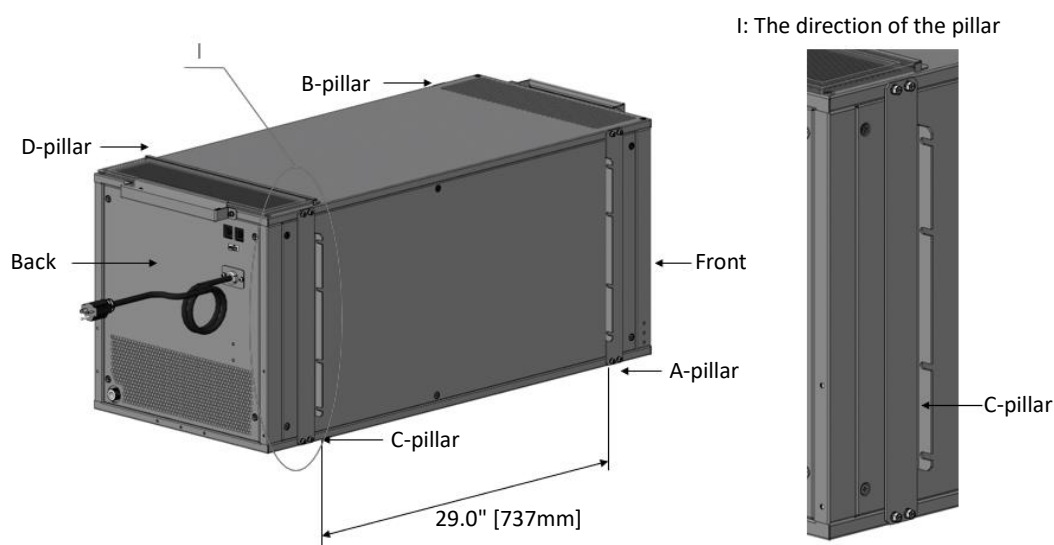

Figure 3-6 Right-side view
- The direction of the pillar is correct as *Figure 3-6* depicts.